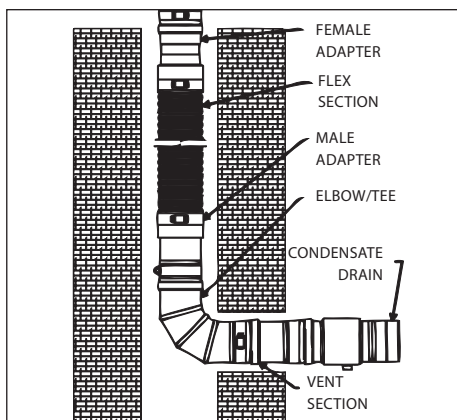

Figure 11
4. The FasNSeal Flex must stay within the masonry chimney; however the Elbow or other FasNSeal components will extend beyond the masonry chimney. (**Figure 11**).